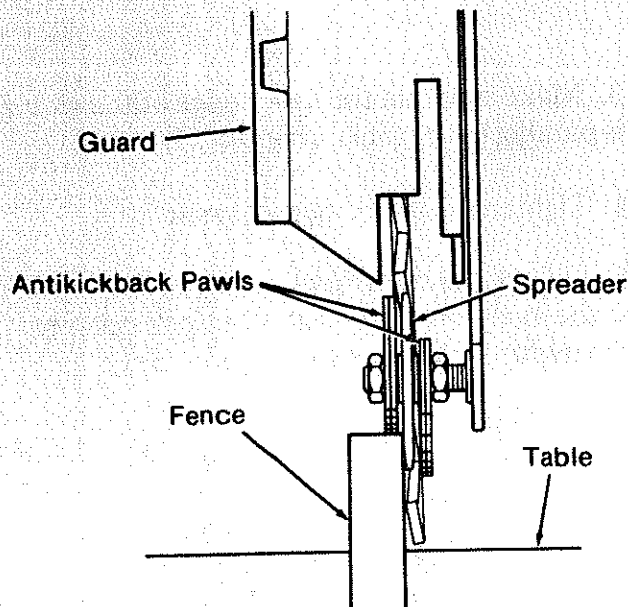

Fig. 76
11. Lower the *spreader* and *antikickback pawls* until the *spreader* is against the *fence*, and the *pawls* on one side of the *spreader* are on top of the *fence*. (Figures 76)